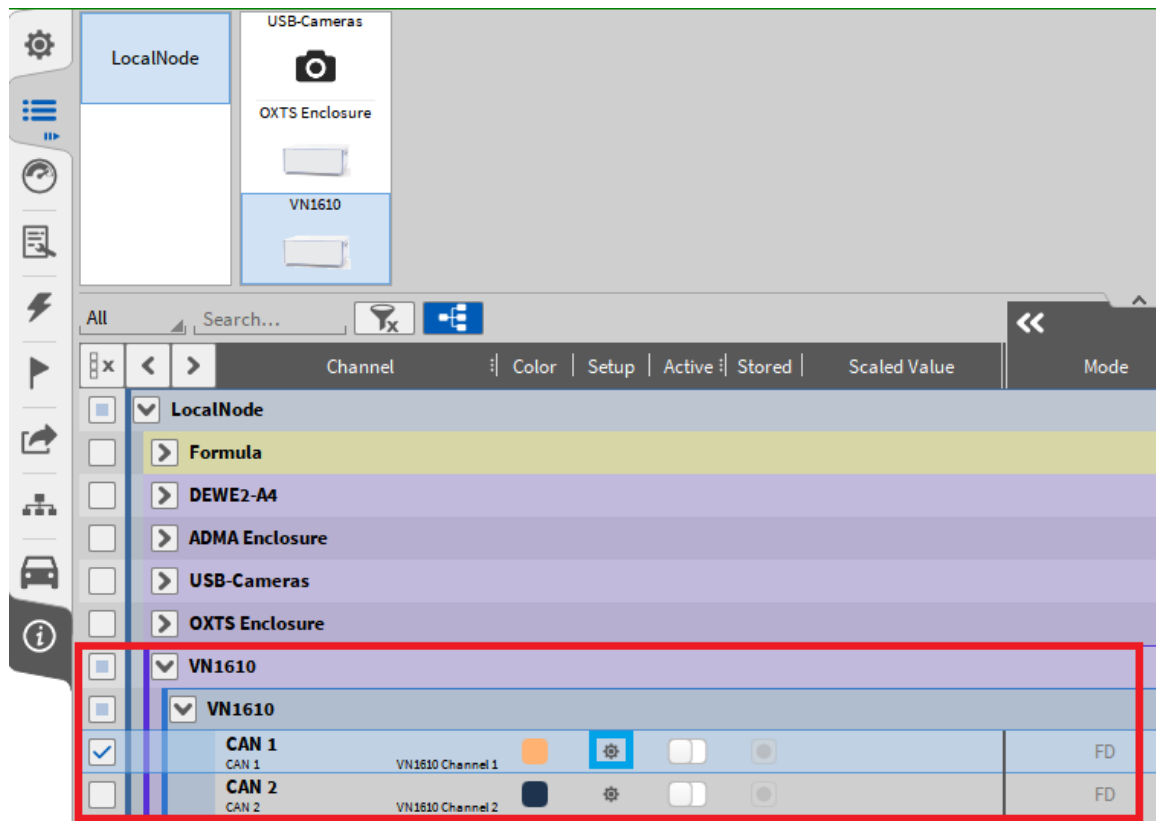
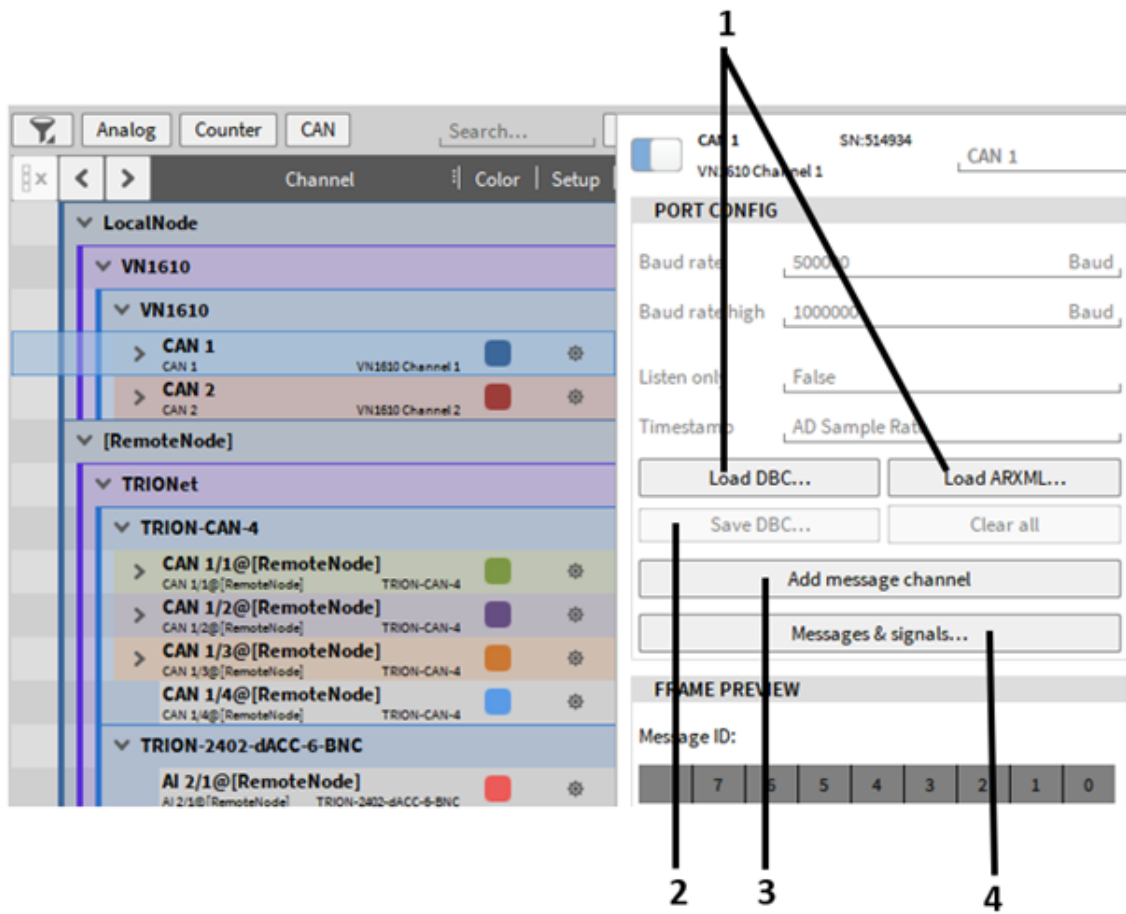

Fig. 4.51: Channel List with Vector VN hardware included
Fig. 4.52: CAN-FD channel settings
- Open the OXYGEN Channel List. The Vector Hardware channels will be visible in the section VNxxxx of the Channel List (marked red in Fig. 4.51).
- Click on the Gear button to open the Channel settings (marked blue in Fig. 4.51). The Baud rate and additional settings can be changed here and the dbc-file can be loaded (see Fig. 4.52).
- To select additional channels later on, just reload the dbc-file and pick more channel in the channel picker dialog. The *Clear all* (Fig. 4.52) button deletes the current channel selection.